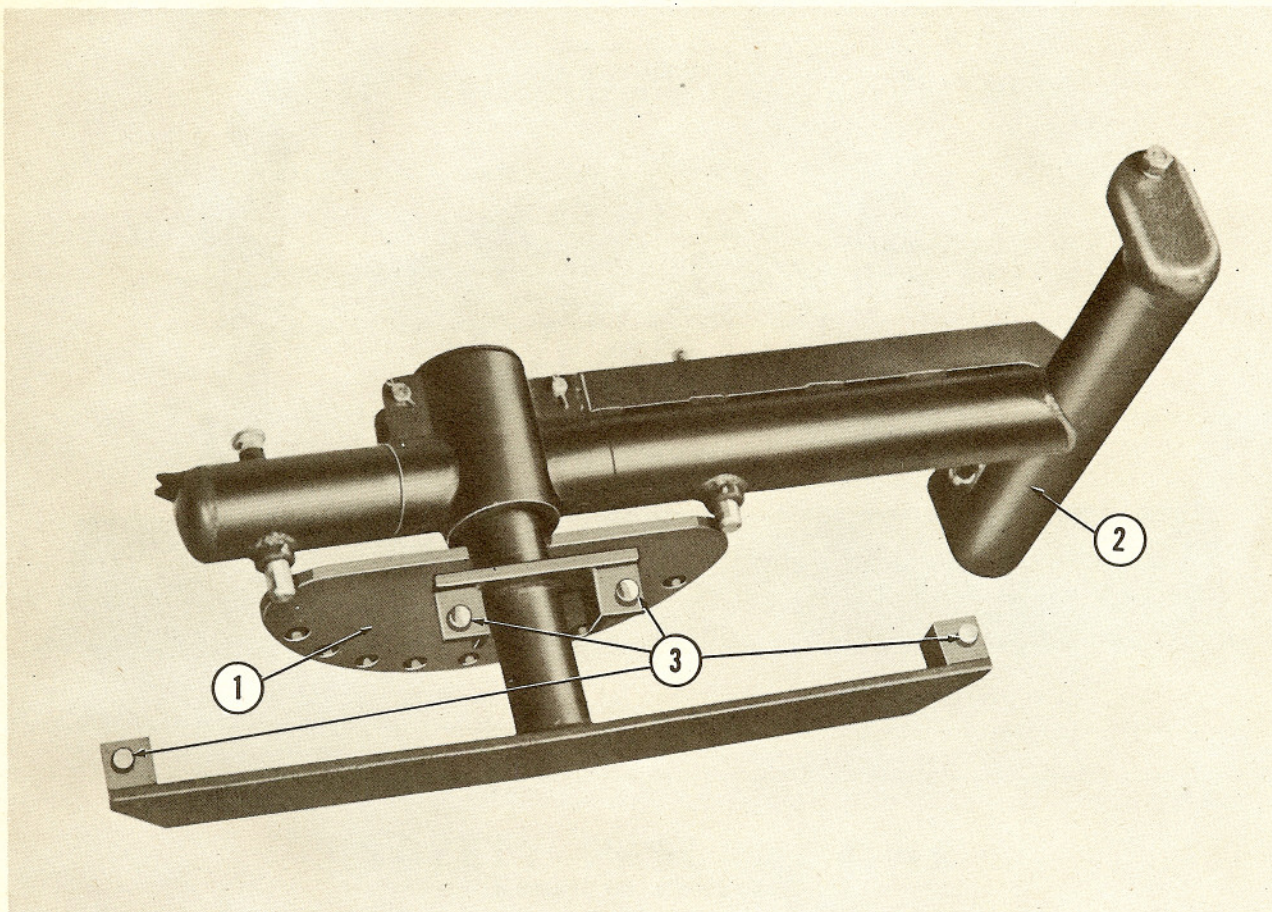

Figure 3
2. Place the main frame on its side, as shown in Figure 3, so it rests on the quadrant (1), and left end of the main frame cross member (2).
- a. Remove the four plow bolts (3), Figure 3, from the moldboard mount.